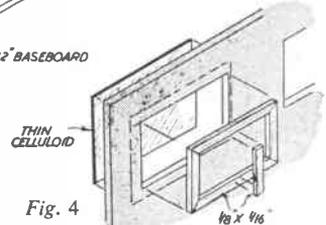
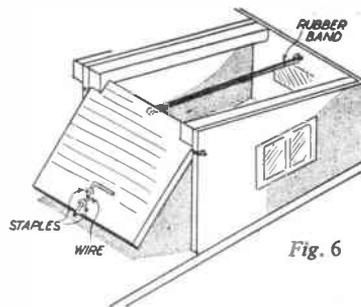

Fig. 4
Fig. 6
Cut the two pieces 17 of  $\frac{1}{4}$  in. by  $\frac{1}{4}$  in. strip to fit in the formers 11 and 12 as indicated in Fig. 4. Now fix  $\frac{1}{4}$  in. by  $\frac{1}{4}$  in. strips (18) through formers 7 and 8, and
Glue formers 5, 6, 7, 8 and 9 to the front portion of the keel, at the same time gluing in pieces 14 and 15 between formers 7 and 8 (Fig. 4). Waterproof glue or Balsa cement should be used throughout for the assembly.
Formers 10 and 11 and transom 12 are next glued to the rear portion of the keel (Fig. 4). The spacing of the formers is indicated by dotted lines on the actual pieces on the design sheet. Take note of
The next step is to add the stringers and skin the hull and sides. Fix short stringers (19) along formers 6, 7, 8 and 9 as in Fig. 6. Then glue the long stringers (20) along the keel as in Fig. 4. Notice that pieces 21 which are a continuation of 20, are small shaped pieces of  $\frac{1}{4}$  in.
side of the bows as shown in Fig. 4.
The windows can be 'glazed' and framed next. The glazing is done by cementing thin celluloid or acetate sheet to the inside, using balsa cement. The frames are then built up to fit from  $\frac{1}{8}$  x  $\frac{1}{8}$  hardwood strip, glued in place on to the celluloid — Fig. 4. Do not use excess cement in making the joints as otherwise this will ooze out over the celluloid and spoil the appearance. The hardwood strip is best cut with a fine blade fretsaw, making all joint lines as neat as possible.
To keep the doors from falling out a light rubber band is then fitted, as shown in Fig. 6, running between small screw eyes or bent pins fastened to the back top edge of the door, and the back wall, near roof height. Adjust the rubber band tension so that it is sufficient to hold the door open in a horizontal position but without giving too vicious a 'spring'.